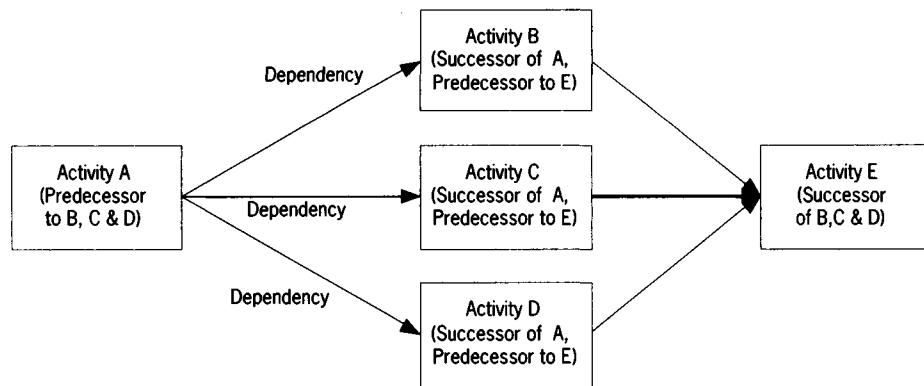
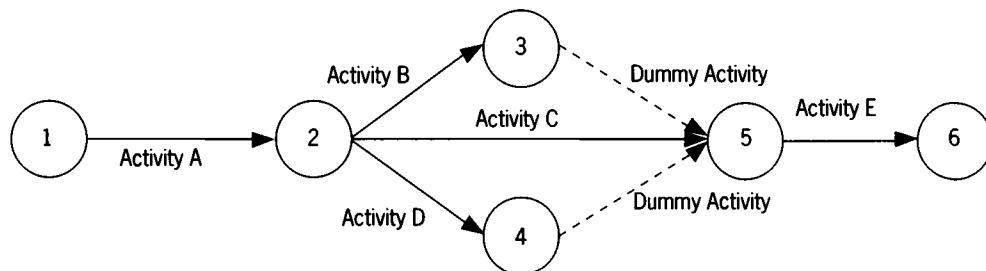

Figure 47 Activity on Node (AON) network diagram (also known as a precedence diagram)
Figure 48 Activity on Arrow (AOA) network diagram (as developed for the PERT/CPM approaches)
Note that the logic of the activities and dependencies in Figures 47 and 48 is identical. AOA ‘rules’ preclude the use of more than one arrow between any two nodes, so ‘dummy’ activities are used, in this case to show that Activity E is dependent on B, C and D. The nodes represent nothing other than a status before or after an activity: in the example in Figure 48, (1) is the status before Activity A and (2) is the status when A has been completed. Note that the flow is conventionally from left to right in both types of diagram.